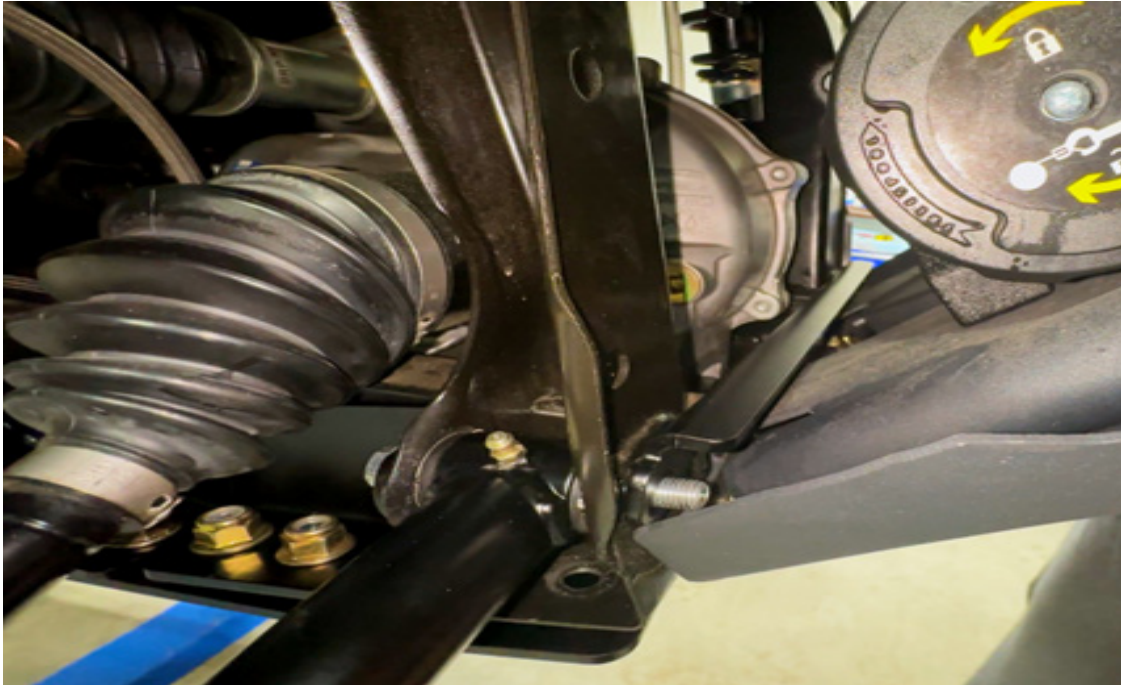

FIG 5 - Install Front Support using a 15mm Socket and 15mm Wrench
Install Front Support by sliding the front support over the 2 x front M10-1.5x80mm flange head bolts (C). Loosely fasten the front support using M10-1.5 flange nylon lock nuts (D) and 15mm wrench and 15mm socket (FIG 5).